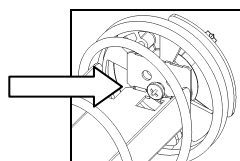

Figure 8
9. Hook tab of adapter over screw head as shown (See Fig. 8)